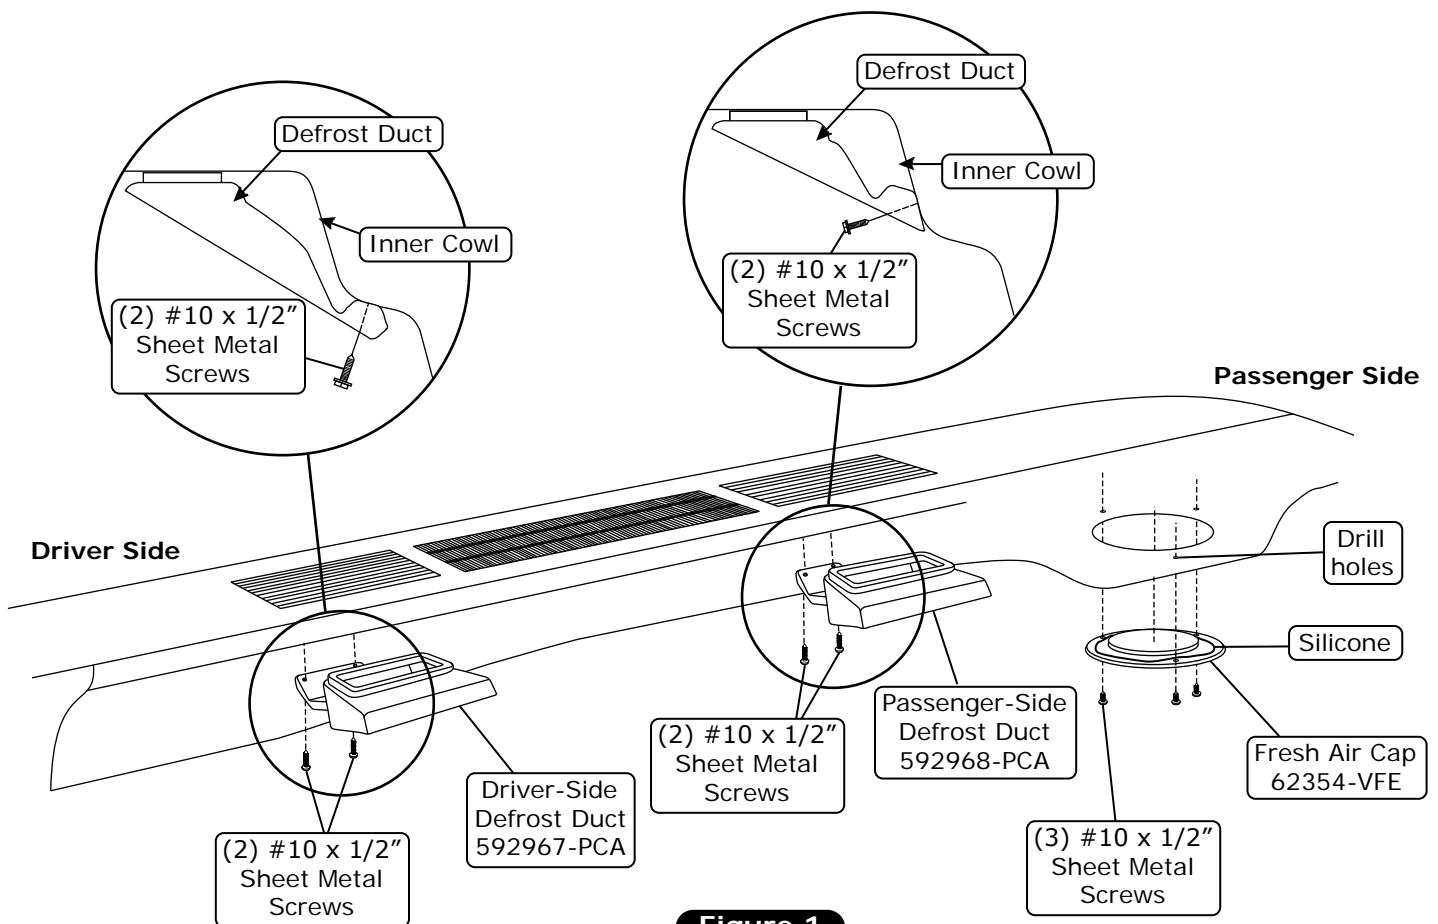

Figure 1
5. Secure the fresh air cap to the fresh air hole using (3) #10 x 1/2" sheet metal screws as shown in Figure 1, below.